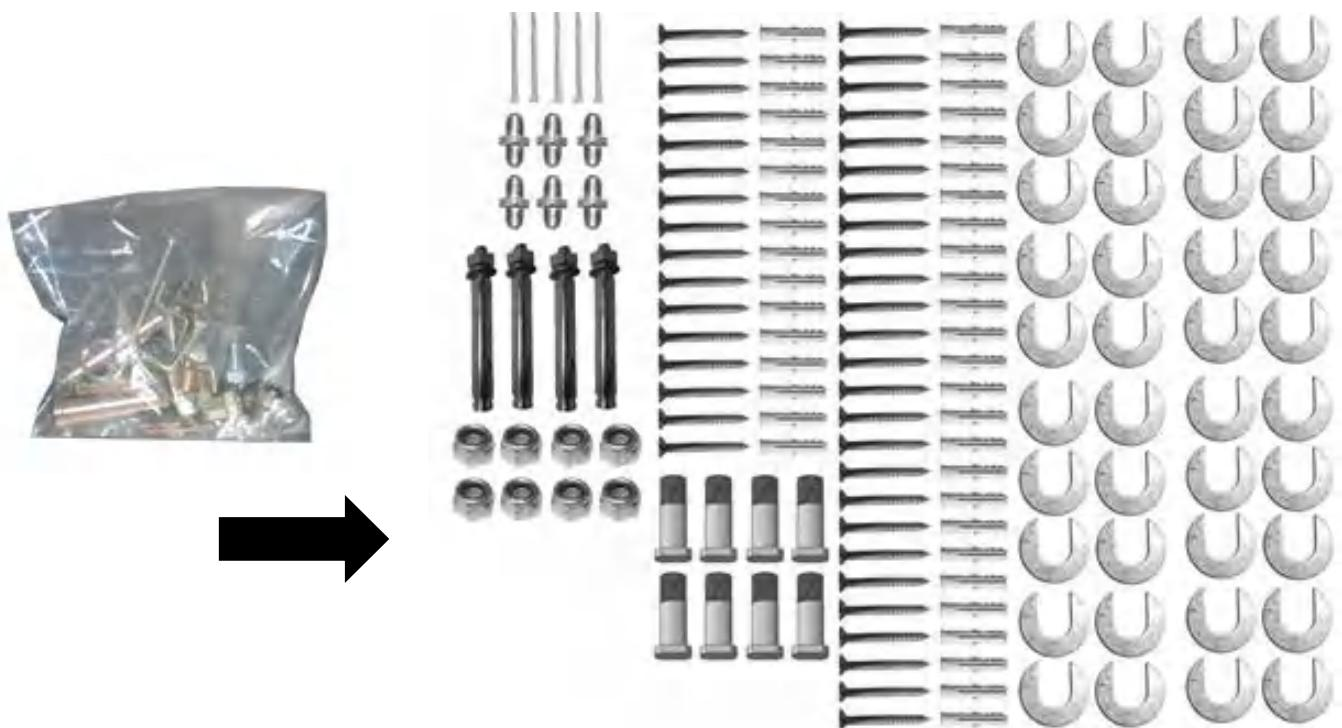

Fig. 11
4. Check the parts of the parts bag according to the parts bag list (**See Fig.11**).